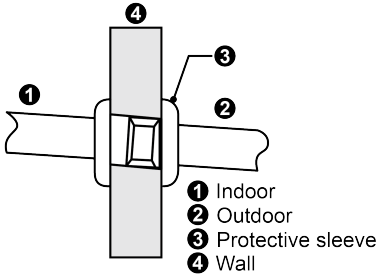
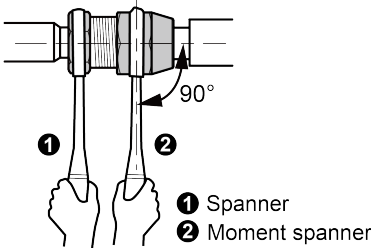

Figure 7-1 Refrigerant connecting pipe through the wall
Figure 7-2 Fastening the connection pipes
- (1) If the water tank and the outdoor unit need to be connected by punching through a wall, a hole of $\Phi 55$ mm must be drilled in the wall and the hole should be inclined toward the exterior wall, as shown in Figure 7-1. Protective sleeves need to be put on both sides of the hole.
- (2) Bind up the connecting pipes, power cable, water temperature sensing package, and communication lines (if necessary) of the wired controller with thermal insulation bands, and then lead them through the hole.
- (3) Remove the refrigerant pipe joint from the water tank and the sealing nuts from the small and large valves of the outdoor unit.
- (4) Remove the sealing caps of the connecting pipe. Align the center of the bell mouth with the pipe joint and valve cone, and screw up the conical nut with your hand and then with a wrench, as shown in Figure 7-2.